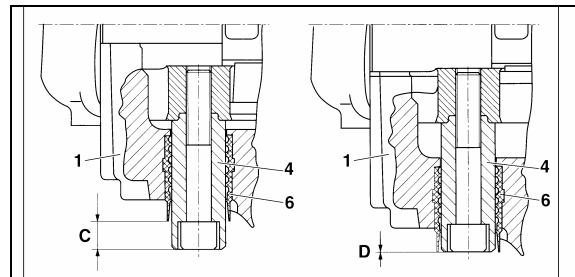

FIGURE 38: BRAKE PAD CHECK
Brake pads have to be checked on a regular basis depending on the vehicle operation. The remaining thickness of the pads should never be less than 3/32 inch (2 mm). To check pad condition without removing the wheel, verify the position of guide bushing (6) relatively to guide sleeve (4) (Fig. 38). When guide sleeve is in alignment with guide bushing, brake pad thickness must be checked more precisely with wheel removed. When replacing the brake pads, all four pads on an axle have to be changed at the same time. There is no inner or outer pad, since all pads are the same. Worn pads should be replaced in the same position.